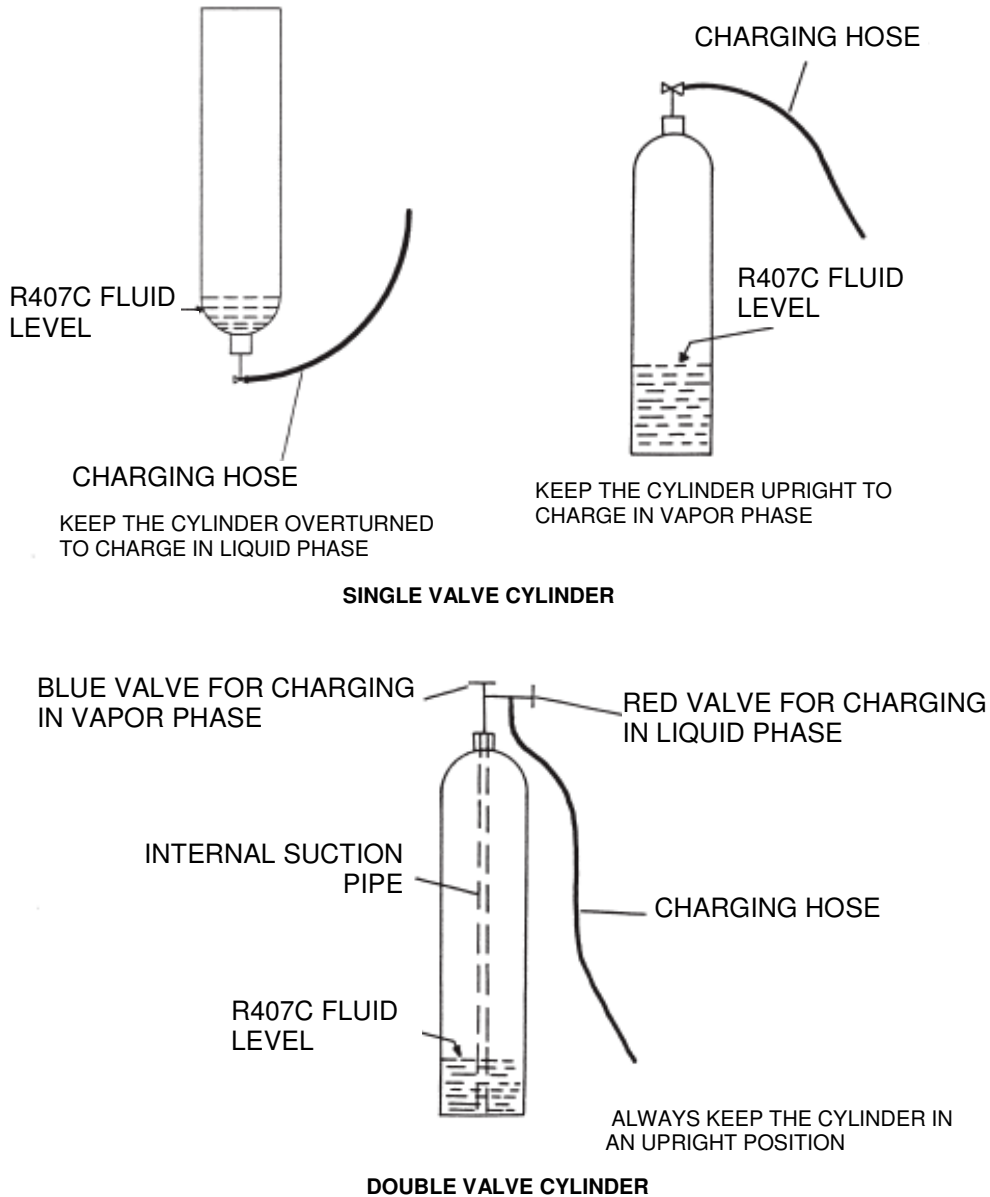

Fig. 12 Refrigerant cylinder
- R407C refrigerant cylinder (ref. Fig. 12).
- 4) In case of a single valve cylinder, the refrigerant can be charged in the liquid state with the cylinder overturned (with the output valve at the bottom). If there is, instead, a two-valves cylinder, there is a bleu valve for the vapour phase charge and a red valve for the liquid phase charge so that it is not necessary to overturn the cylinder (ref. Fig. 12).
- R407C refrigerant cylinder (ref. Fig. 12),